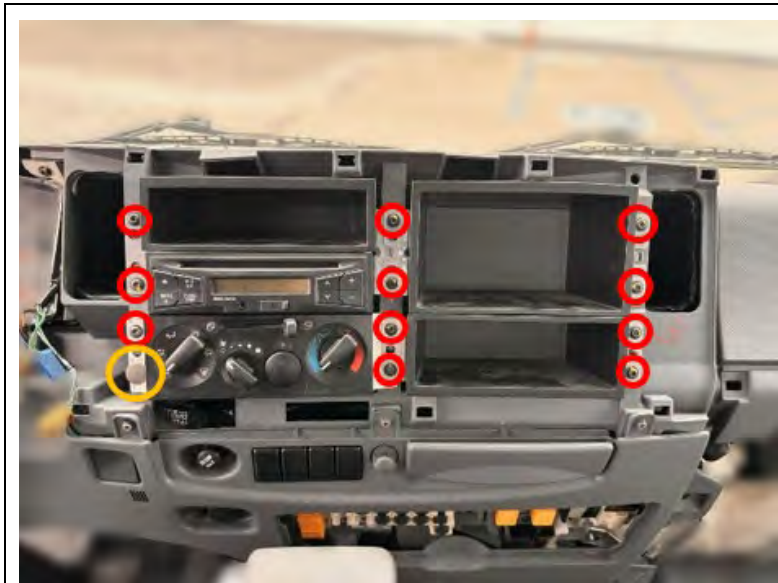

Figure 51
55. Remove the eleven (11) T25 screws securing the cluster compartments, radio and A/C control panel and the one (1) clip for the A/C control panel. (See Figure 51.) Remove the cluster compartments and radio. Do not remove the A/C Control panel. If the vehicle is equipped with an aftermarket radio, follow the manufacturer's instructions for removal.